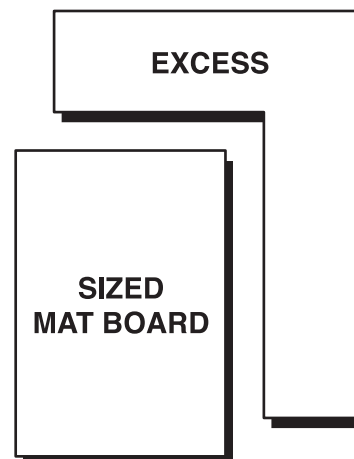

Fig.6
**Step 5** – Using your Logan Mat Cutter and the Logan 701 Straight Cutter, cut the mat board on the lines drawn in Step 4. (Fig. 6)